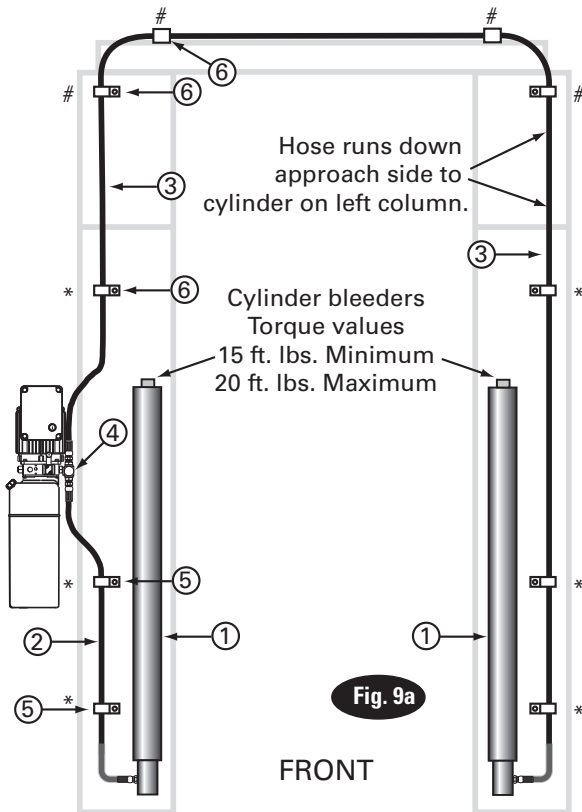

Fig. 9a
10. Hoses: Clean adapters and hose. Inspect all threads for damage and hose ends to be sure they are crimped, Fig. 8b. Install hose and hose clamps, Fig. 9a & Fig. 9d.
Adapter & Hose Installation (see Fig. 9a)
14. Oil Filling & Bleeding: Use Dexron III ATF, or Hydraulic Fluid that meets ISO 32 specifications. Remove fill-breather cap, Fig. 8a. Pour in (8) quarts of fluid. Start unit, raise lift about 2 ft. Open cylinder bleeders approximately 2 turns, Fig. 9a.